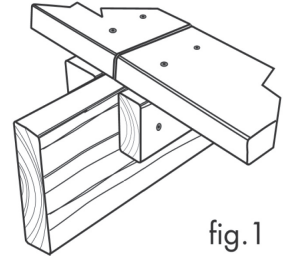

fig. 1
1. **DO NOT SHARE JOISTS OR FASTENERS, at butt end joints in the decking...** the ends of each deck board are to be individually supported and fastened (See fig. 1).